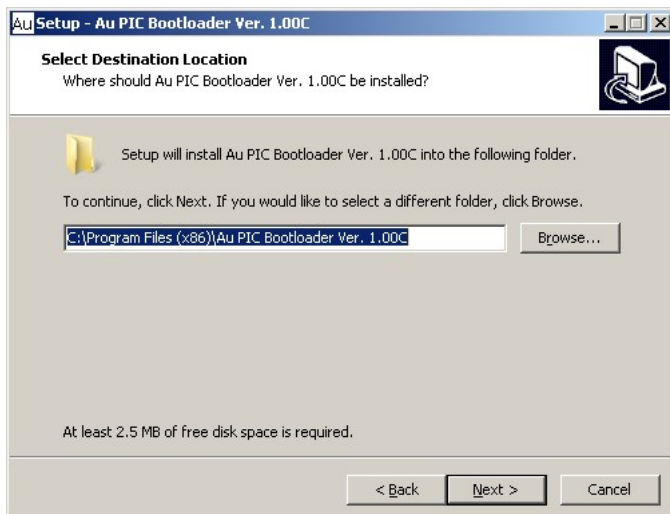

Figure C-4
4. “Select Destination” window shows up, use default path: C:\Program Files\ AU PIC Bootloader”, then click “next” to continue (Figure C-4).